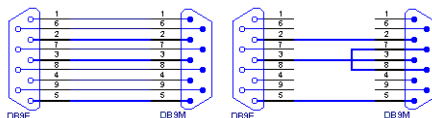

Fig. 2: Serial cable DB9F-DB9M and 3-core cable
**Note:** If serial communication cannot be established and all parameters of communication are correctly set (speed, parity, etc.), then we recommend to remeasure the cable according to the **Fig. 1** on pg. 1. or **Fig. 2** on pg. 3. (especially pin connection 2 and 3).